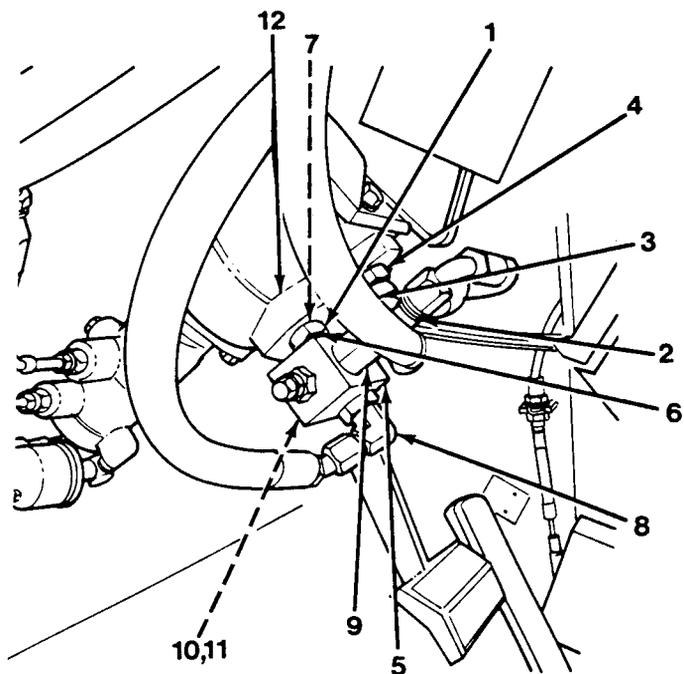

Figure 13-1
2. Remove dust cap (11, Figure 13-1).